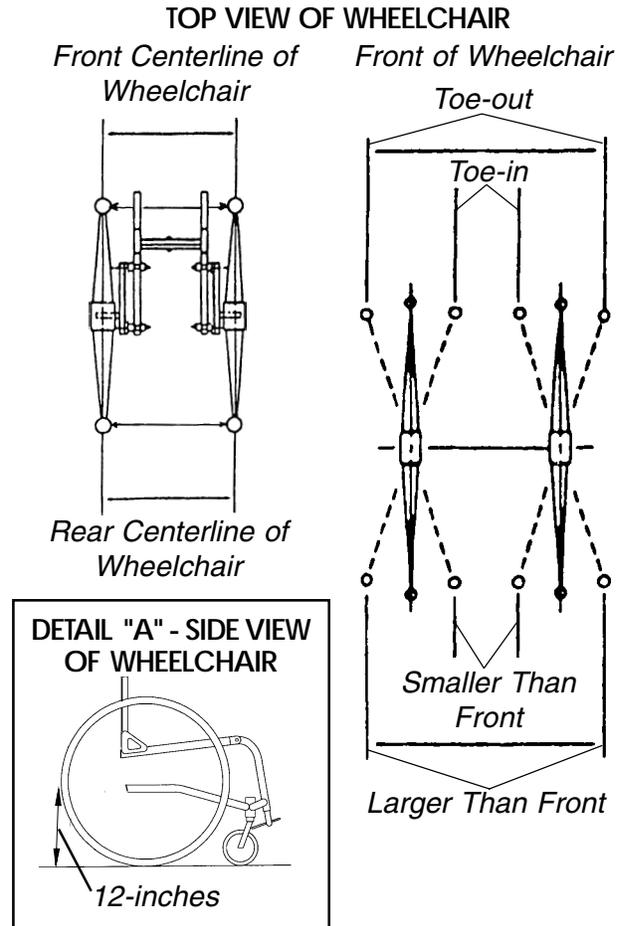

FIGURE 7 - DETERMINING TOE IN/TOE OUT
**DETERMINING TOE IN/TOE OUT (FIGURE 7)**
2. Measure the distance between the centerlines at the rear and front of the rear wheels at approximately 12-inches from the ground/floor (FIGURE 7).
3. Determine the difference between the two (2) measurements. If the **difference** between the **two (2) measurements** is **NOT** within  $\pm 1/8$ -inch, one (1) of two (2) conditions exists:
- A. If the **back centerline measurement** of the rear wheels is **SMALLER** than the **front centerline measurement** of the rear wheels, a **TOE-OUT** condition exists (FIGURE 7).
- B. If the **back centerline measurement** of the rear wheels is **LARGER** than the **front centerline measurement** of the rear wheels, a **TOE-IN** condition exists (FIGURE 7).